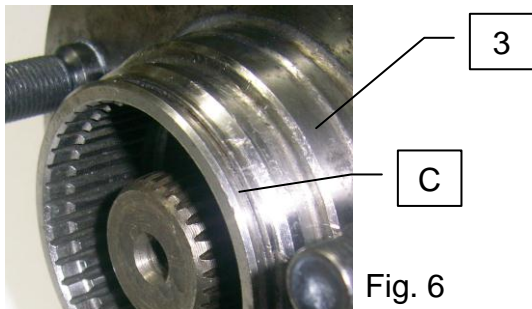
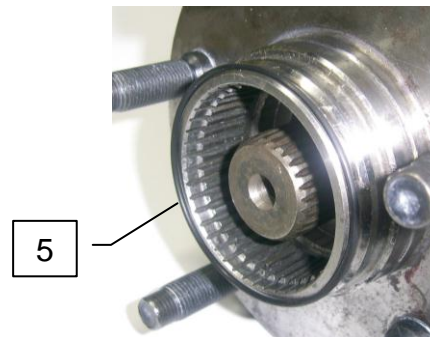

Fig. 6
Fig. 7
5- Install in the "C" channel of the freewheel hub (3) [Fig. 6] the new provided O-ring (5) [Fig. 7].
- Every time freewheel hub is removed from the vehicle, replace O´ring (5) [Fig. 7].